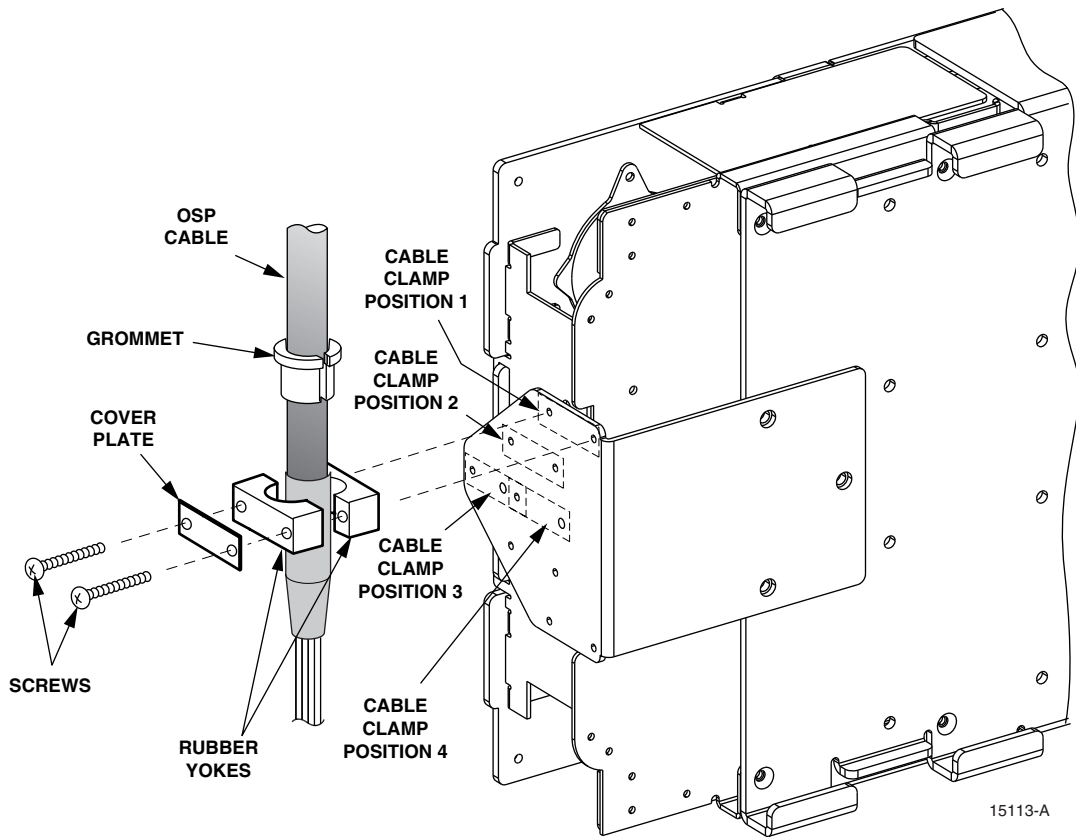

Figure 11. IFC/OSP Cable Clamp Installation
1. Locate the cable clamp mounting position at the rear side of the FTB as shown in Figure 11. Note that four clamping positions are provided. If more than one cable will be attached to the FTB, use the clamping positions in the order shown.
5. Place the rubber clamp yokes and the grommet selected in step 4 around the cable and then secure the cable to the FTB (see Figure 11).